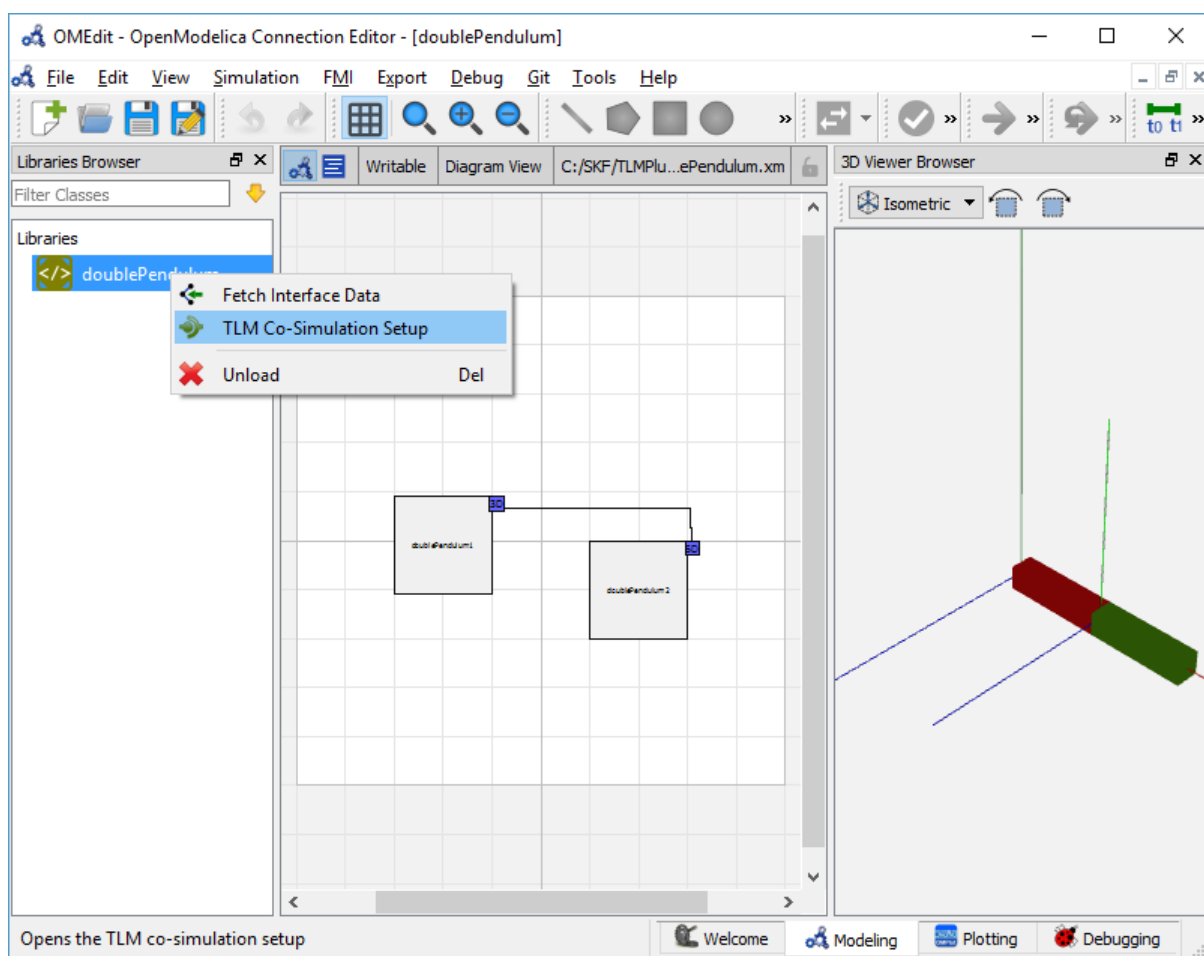

Figure 9.2: Co-simulating and Fetching Interface Data of a composite model from the Popup Menu .
- Right click the composite model in the **Libraries Browser** and choose **TLM Co-Simulation setup** from the popup menu (see Figure 9.2)
- Right click the composite model in the **Library Browser** and choose **Fetch Interface Data** from the popup menu (see Figure 9.2).